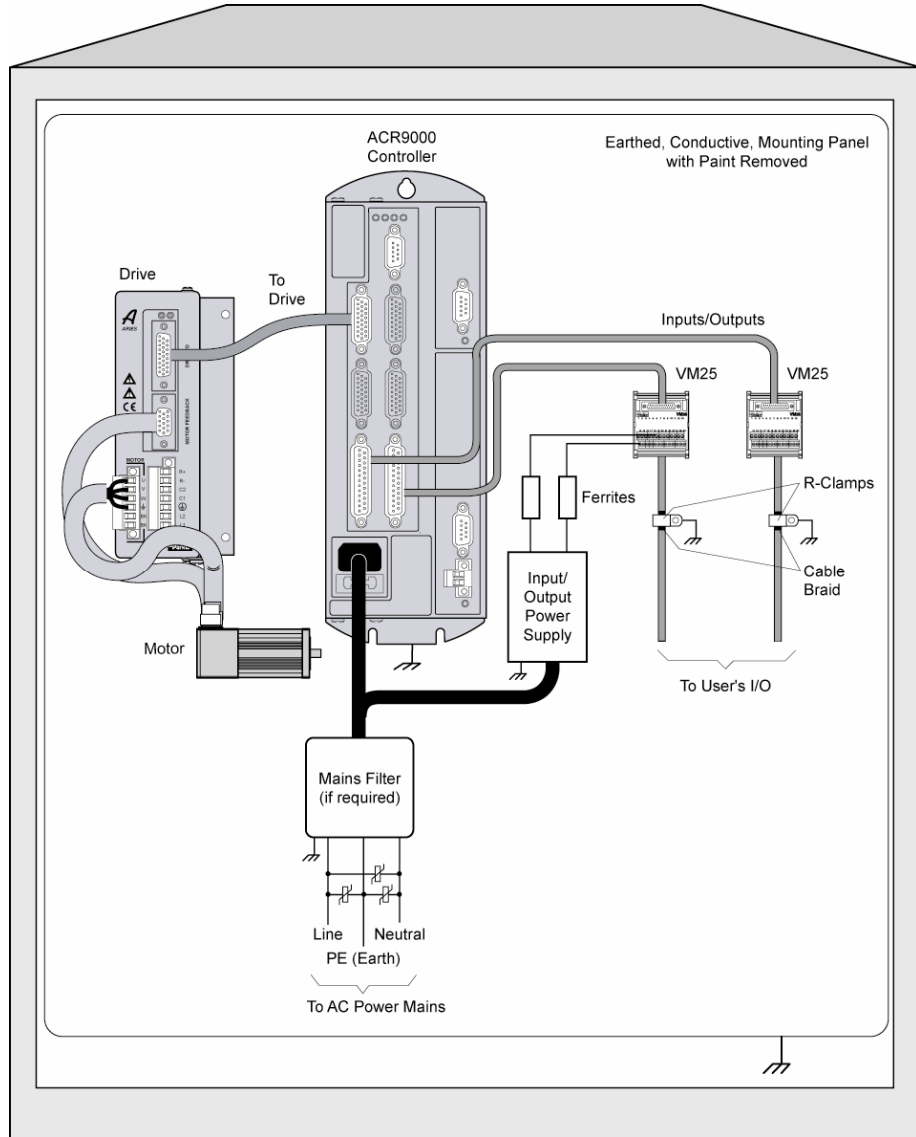

Figure 37 Typical LVD/EMC Installation
- Route cables as shown in the EMC Installation drawing, Figure 37 on page 155.
- Take care that the power supply providing the pull-up voltage to the controller's high-speed inputs and outputs is free from electrical noise. Short-Duration transient events, such as those caused by electrical relays, can induce sufficient voltage disturbance on unfiltered DC power lines to affect I/O performance. One method of reducing the amplitude of transient disturbances on DC power lines is to add ferrite suppressors (3 turns) to the conductors as shown in Figure 37 on page 155.